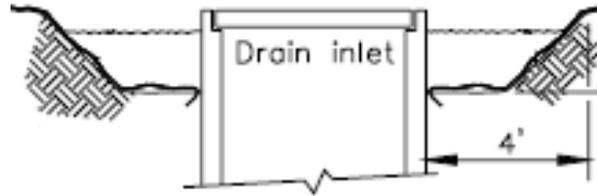

Figure 1 Cutback Curb Stormdrain Inlet Protection
- Excavate the soil around the inlet 3-4 inches down and bring the soil 3-4 feet back from around the inlet. This will create a sediment trap 3-4 inches deep and 3-4 feet in length around the stormdrain inlet. See Figure 1 at the end of this BMP Specification.